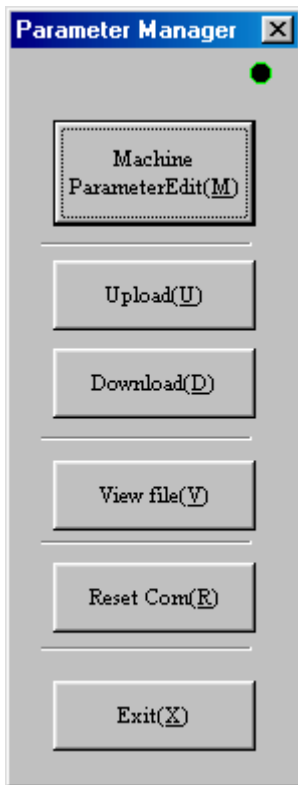

Figure 8.23 "Parameter Manager" dialog box
Click "*Parameter (M)*" under "MainMenu" to display the "Parameter Manager" dialog box (see Figure 8.23).